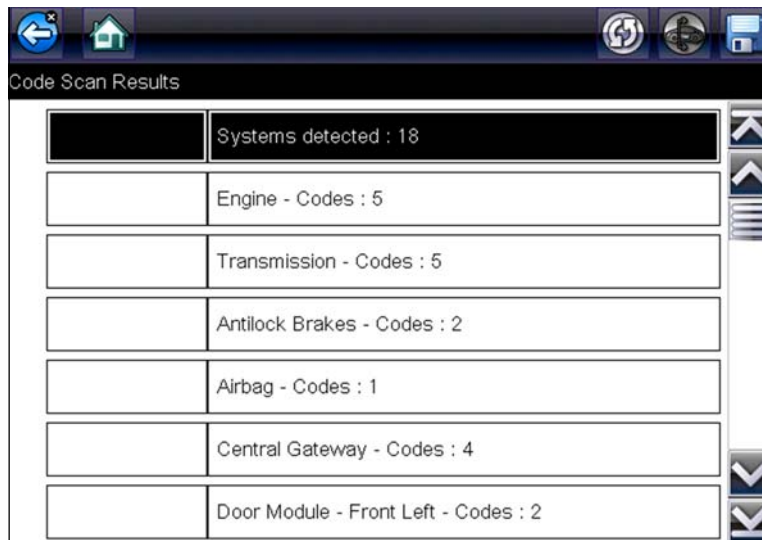

Figure 4-8 Code Scan systems analyzed result total
Depending on the vehicle, Code Scan (if supported) may be available from the Systems menu. Selecting **Code Scan** starts an active scan of vehicle control modules, and opens the Code Scan results screen (Figure 4-8). A progress indicator is shown at the top indicating the active scanning progress. Once completed, the results are displayed by system category.
- **The total number of systems (modules) detected** (Figure 4-8).